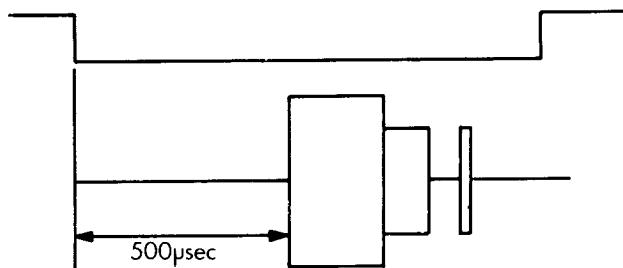

Fig. 5-1 Index burst waveform
- vi) Adjust VR201 so index frequency is $200 \pm 2\text{ms}$ (See Fig. 5-1).
When the timing is not within this range, proceed with the following adjustment. (Refer to Fig. 5-1).
Tighten the screws. (Fig. 5-1).